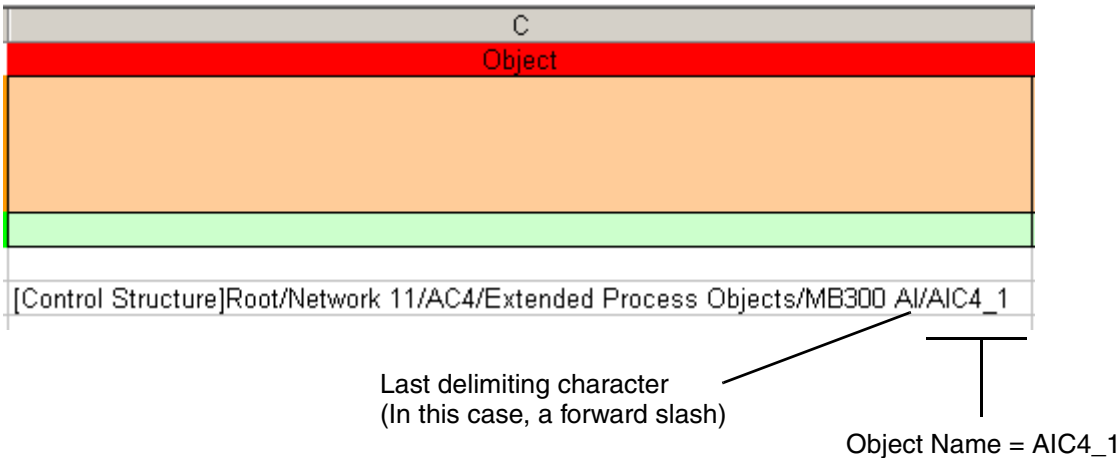

Figure 288. Obtaining the Object Name
- 1. Obtain the object name from the Object column. The object name is the text string that follows the last delimiting character in the full text string, Figure 288.